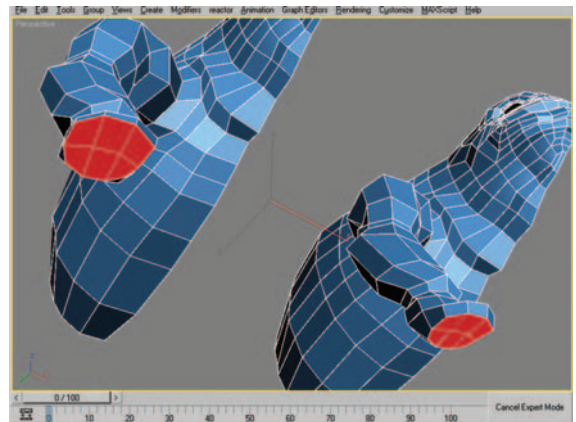

Figure 9.57 Polygon selection before and after using Scale. Polygons were also moved down to add thickness to the foot.
18. Select the six polygons that make up the bottom surface of the foot (Figure 9.57, left). Scale them down (smaller), then move them down to give a little more thickness to the foot (Figure 9.57, right).